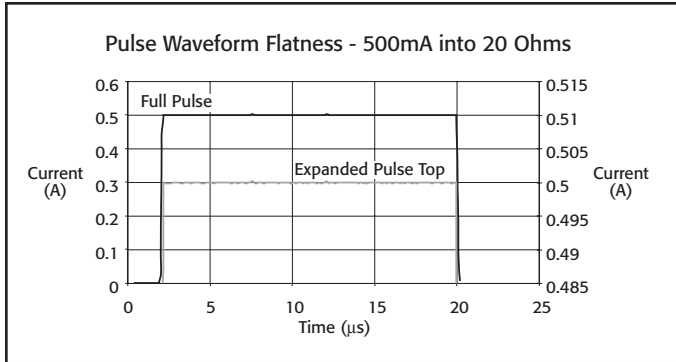

Figure 1
Figure 1. This schematic reflects the current testing practices of major laser diode manufacturers. Note that the use of discrete test components increases the integration and programming effort, while severely limiting the flexibility of the test system.
- Figures 1 and 2 are typical pulse outputs into resistive loads.